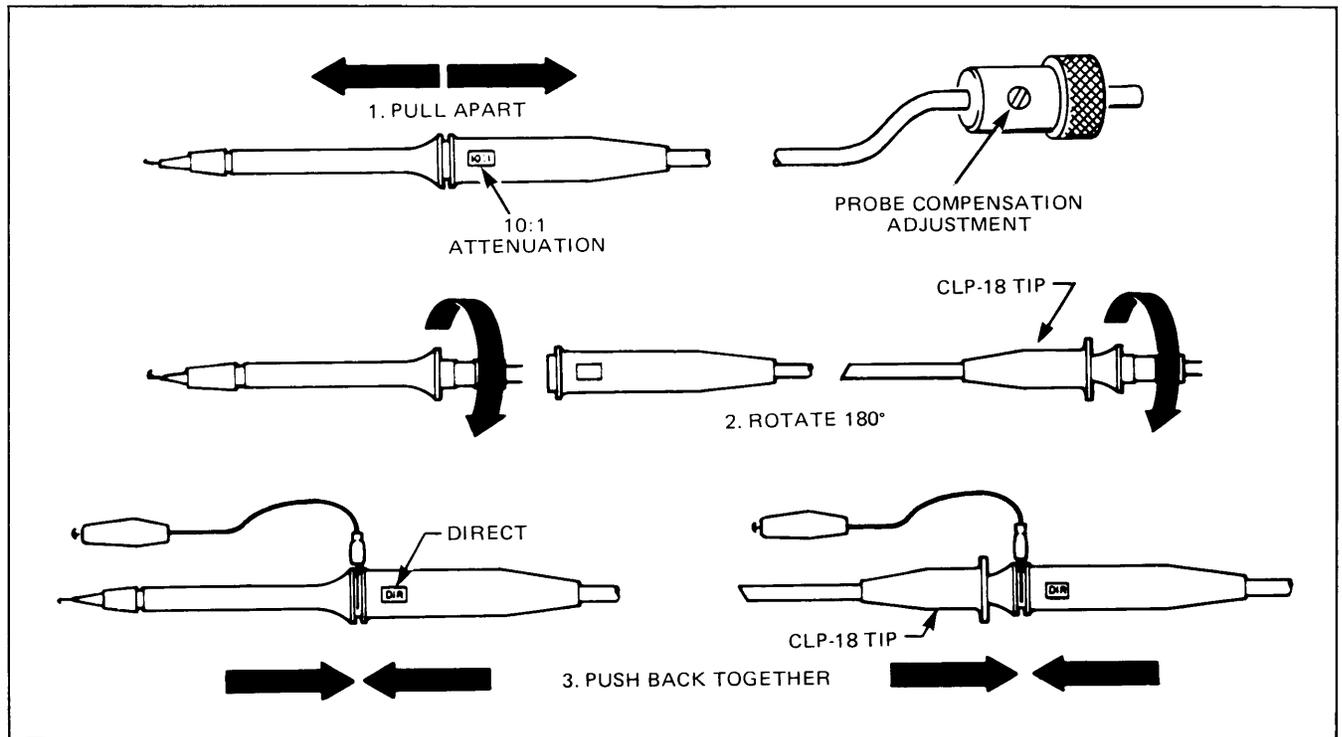

Fig. 3. Probe details.
33. Probe (see Fig. 3). The B & K-Precision Model PR-35 combination 10:1/Direct probe has been designed for use with this oscilloscope. However, any probe designed for use with an oscilloscope having a nominal input impedance of 1 megohm shunted by 27 pF and capable of operation up to 15 MHz, can be used.
2. For all except low-amplitude waveforms, the probes are set for 10:1 attenuation. For low-amplitude waveforms (below 0.5 volt peak-to-peak), set the probe for **DIRECT**. See Fig. 3 for changing the probes from 10:1 to **DIRECT**, or vice versa. The probe has a 10 megohm input impedance with only 18pF shunt capacitance in the 10:1 position and 1 megohm with 120 pF shunt capacitance in the **DIRECT** position. The higher input impedance (low-capacity position) should be used when possible, to decrease circuit loading.
3. If the recommended **B & K-Precision** Model PR-35 oscilloscope probes are used, 10:1 attenuation should be used except for waveforms of 0.5 volt peak-to-peak or less. For the lower amplitude waveforms the DIRect position should be used. See Fig. 3 for changing the probe from 10:1 to DIR or vice versa. Whenever possible, use the high impedance, low capacity 10:1 position to minimize circuit loading.